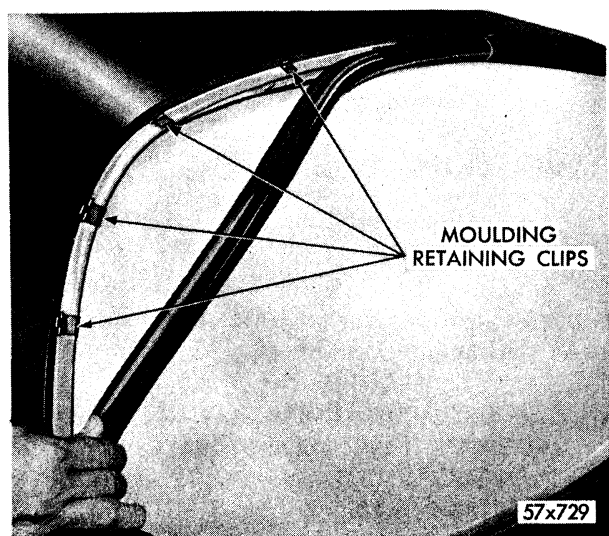

Fig. 82—Removing Weatherstrip (Rear Glass)
**NOTE:** When installing rear glass weatherstrip on Imperial Models, space moulding retaining clips equally apart on body fence, as shown in Figure 82.